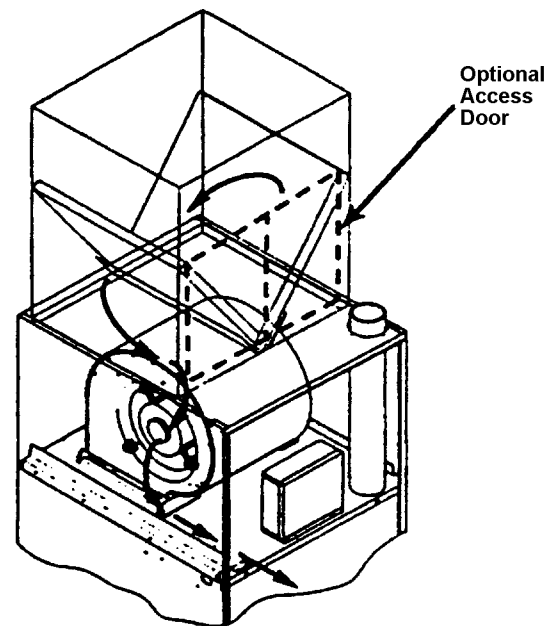

Figure 7
The furnace-mounted filter rack includes a rack mounted on the top of the furnace. Two filters fit into the rack and rest against the sides of the return air plenum, forming a "V" above the furnace (Figure 7).
3. Remove the left filter first by reaching to the left side of the blower, pushing the filter up slightly to remove it from the filter rack. Then carefully pull the filter down past the left side of the blower housing. Be careful not to dislodge any trapped dirt or debris from the filter (Figure 7).
4. Remove the right filter by reaching to the left side of the blower. Lift filter up slightly to remove it from the filter rack. Move the filter to the left side of the return air plenum, and down past the left side of the blower housing. Be careful not to dislodge any trapped dirt or debris from the filter (Figure 7).
5. To reinstall the filters, first **MAKE CERTAIN THE AIR-FLOW DIRECTION ARROW POINTS TOWARDS THE FURNACE**. Then insert the filters from the left side of the blower. Starting with the right filter, push the filter into the plenum so that the bottom of the filter rests in the filter rack and the upper edge rests against the side of the plenum. Repeat with the left filter (Figure 7).